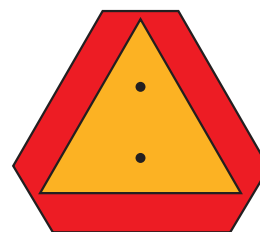

Figure 3-20: SMV Sign
10. Transport during daylight hours whenever possible. Always use tractor or Skid Steer flashing warning lights, except where such use is prohibited by law. Make sure lights, reflectors and SMV emblem are clearly visible and operating. Remove any obstructions such as dirt, mud, stalks or residue that restricts view before transporting. **See Figure 3-20.**